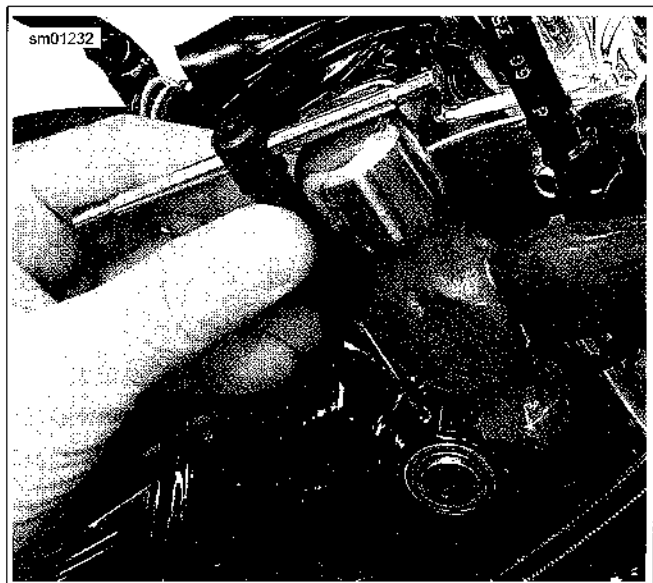

Figure 2-189. Removing Lock Pin
6. See Figure 2-189. Remove lock pin.